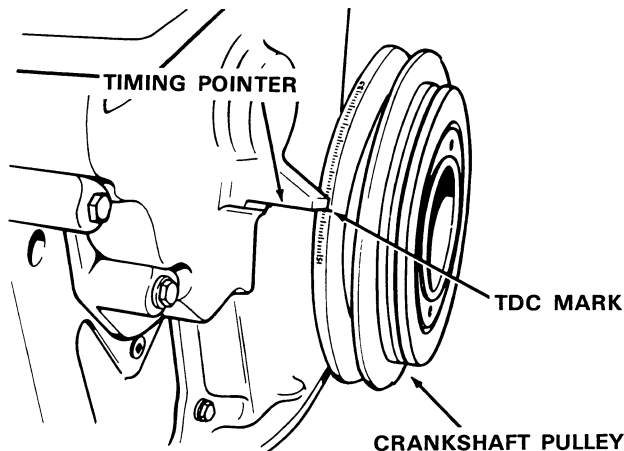
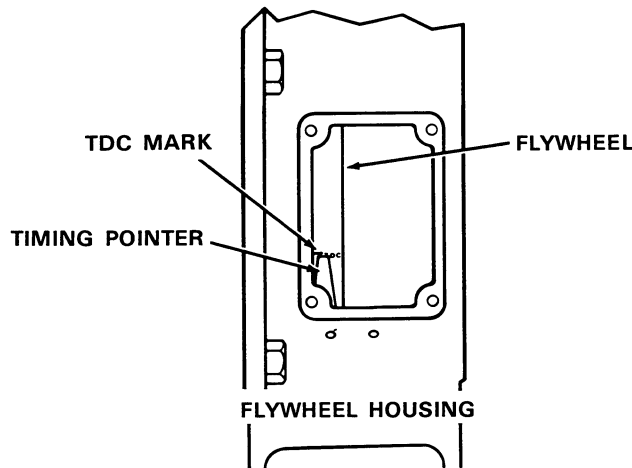

Figure 31
Figure 32
The top dead center of No. 1 and No. 6 cylinders are found and indicated by aligning the TDC mark on the crankshaft pulley and the timing pointer on the timing gear cover, Figure 31, or by aligning the TDC mark on the flywheel with the timing pointer in the flywheel housing located on the fuel filter side of the engine, Figure 32.
STEP 1 - Remove the valve covers. Crank the engine until the timing pointer is aligned with the TDC timing mark, Figure 31 or Figure 32. Check the push rods on No. 1 cylinder for looseness. If the push rods are loose, No. 1 cylinder is at TDC on the compression stroke. If the push rods are tight, crank the engine one complete revolution and align the pointer and the TDC mark.
STEP 2 - Crank the engine one complete revolution and align the timing pointer and the TDC mark, Figure 31 or Figure 32. Cylinder No. 6 should be at TDC on the compression stroke. Check the push rods on No. 6 cylinder for looseness.